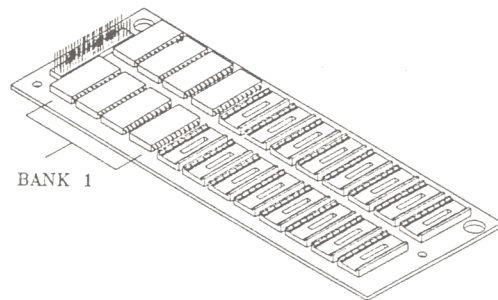

Figure 2-4-2 An expansion memory card with one BANK (1 MB) DRAM
The RAM card can be divided into 3 BANKs. Each bank consists of eight 1 M x 1 bit DRAM chips. The user must plug in the whole BANK at one time, this is shown in Figure 2-4-2. Here the 1 MB DRAM has been plugged into the BANK 1 location on the expansion card.
- step 1. According to Section 2-4-1 plug in the quantity of DRAM you need into the sockets on the expansion card. Remember that this must be done as one BANK unit. (see Figure 2-4-2)